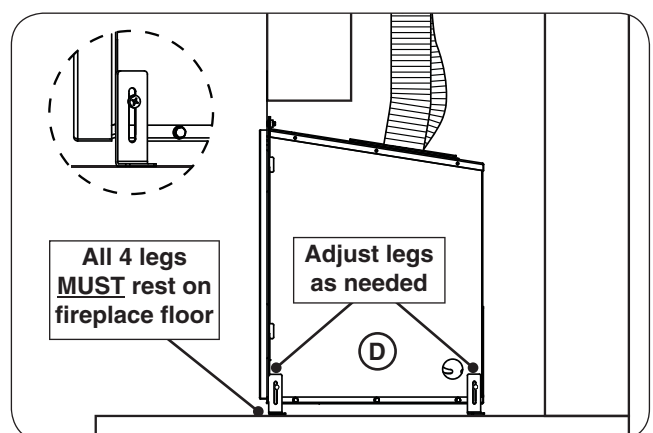

Fig. 27-4 Use adjustable legs to level (as needed)
6. The unit has four adjustable legs for leveling purposes. Adjust each leg as needed to level the unit. Ensure each leg rests on the fireplace floor. Use a Phillips screwdriver to loosen a leg, move it to the required height, and then re-tighten the screw. See Fig. 27-4, D.